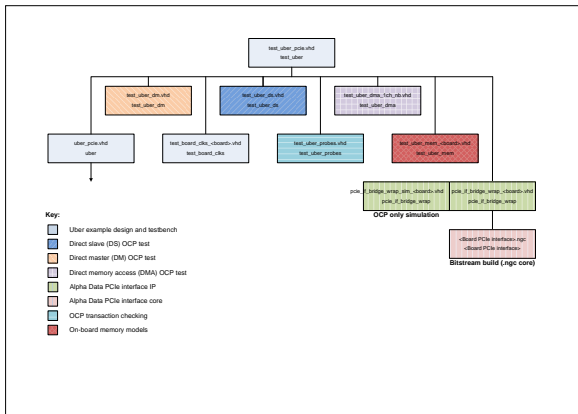

Figure 26: Uber Design Testbench Hierarchy (PCIe)
**Figure 26** shows the hierarchy of the **uber** testbench using PCIe interface IP.